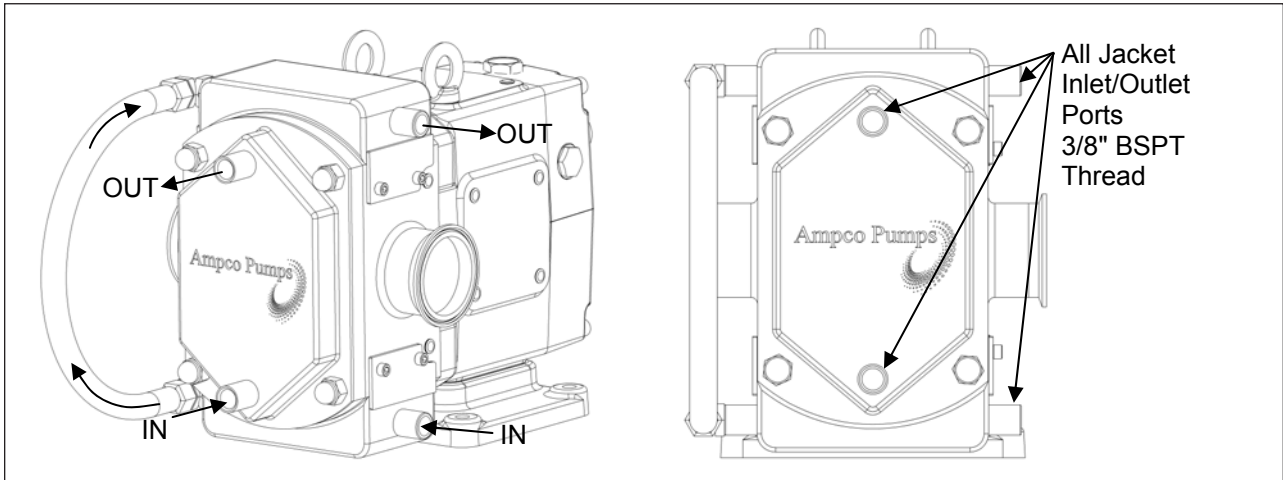

Figure 49. Jacketed Cover
1. Clean all reusable parts prior to reassembly. Apply a light coat of lubricant on the shaft area where the front bearing will sit. Position the shaft upright in the press with the rotor end facing down (*Figure 49, A*). Ball bearings are used on all models except for the AL40 series. For the AL40 series it is important to not interchange any parts of the bearing assembly since all bearings are manufactured as sets and assembled to have a precise overall length. Open
the new front bearing assembly and place it over the shaft along with the bearing spacer (*Figure 49, B*). Make sure the bearing and spacer are aligned before pressing them on. Using a sleeve that rests on the bearing spacer and rides over the shaft, press the bearing on until it seats against the shaft shoulder. A shim can be used to ensure that the bearing is fully rested on the shaft shoulder (*Figure 49, C*).